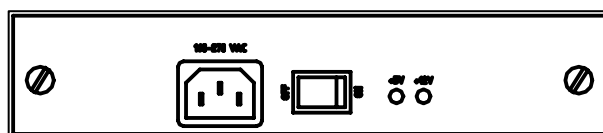

Figure 8 Panel of rack/AC AC redundant power supply
- The panel of RACK/AC AC redundant power supply is shown in figure 8.